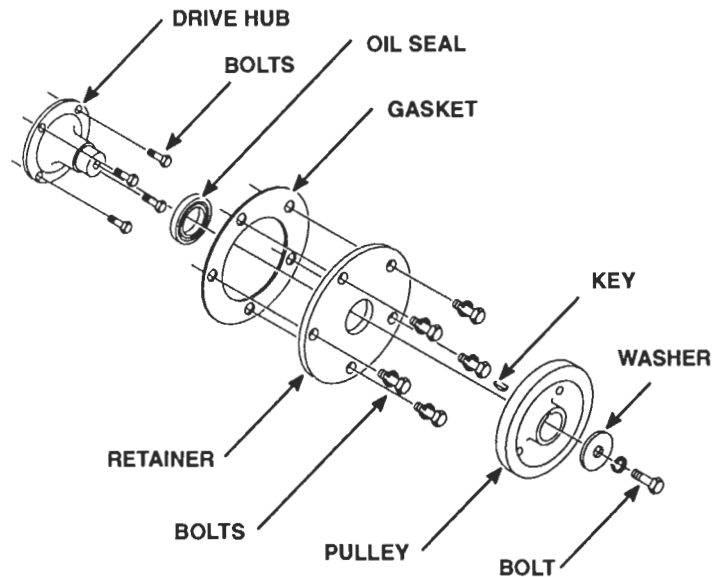

Figure 3. Accessory Drive Components for Belt Driven Accessory (Drive Hub Type)
3. Remove the bolt and washer (Figure 3.) that retains the pulley on the drive shaft.